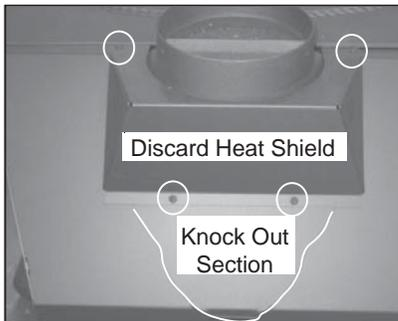

Figure 13.1
1. Lift off cast top. Remove 4 Phillips head screws from the heat shield. Discard heat shield and save the screws. **Figure 13.1.**
5. Manually snap off the knock-out section and discard. See white outline in **Figure 13.1.**